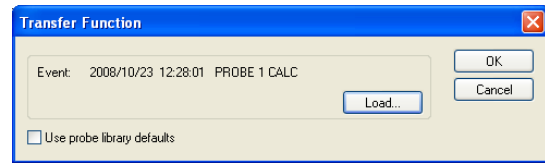

Figure 22: Transfer function selection window.
9. Click on the “linearization” icon placed next to the first listed 55R01 probe. The “Transfer Function” window, shown in Figure 22, opens.
13. Repeat steps (9) to (12) for the second 55R01 probe but select the calibration event of probe 2